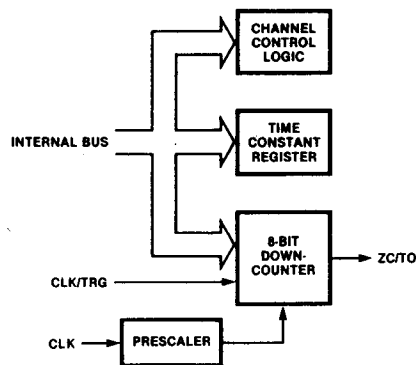

Figure 4. Counter/Timer Block Diagram
**Counter/Timer Circuits.** The CTC has four independent counter/timer circuits, each containing the logic shown in Figure 4.